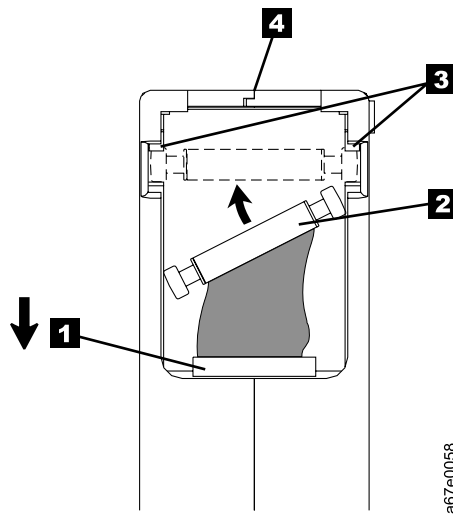

Figure 11. Placing the dislodged leader pin into the correct position. The cartridge door is open to show the leader pin.
- Do not drop the cartridge. If the cartridge drops, slide the cartridge door back and ensure that the leader pin is properly seated in the pin-retaining spring clips (see Figure 10 on page 30). Inspect the rear of the cartridge (the part that you load first into the tape load compartment) and ensure that there are no gaps in the seam of the cartridge case (see **4** in Figure 11 on page 31). If the leader pin has become dislodged or if there are gaps in the seam of the cartridge case, go to “Repositioning or Reattaching a Leader Pin” on page 30.
1. Slide open the cartridge door ( **1** in Figure 11) and locate the leader pin **2** (you may need to shake the cartridge gently to roll the pin toward the door).